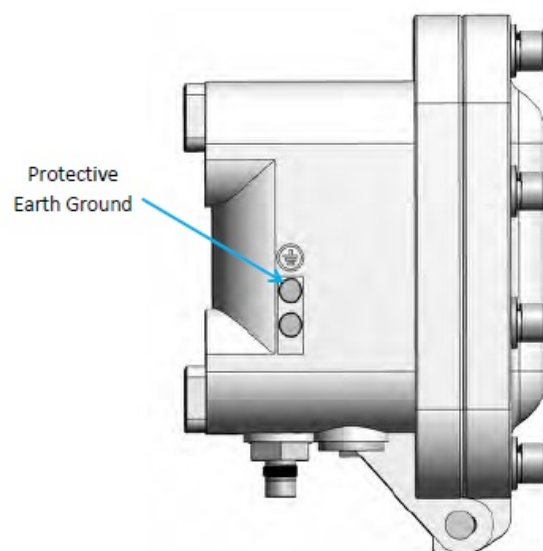

Figure 8: Kona Macro Ex Gateway PE Ground Connection Location
The Kona Macro Ex Gateway requires a permanently connected Protective Earth (PE) Ground conductor. The Protective Earth Ground connection is made through a double hole lug to the termination point located on the side of the enclosure as illustrated in Figure 8. The cable lug must have 6.35 mm  $\varnothing$  holes on 16 mm centers (0.25"  $\varnothing$  on 0.63" centers). The required ground cable gauge is #10 AWG (4 mm2) minimum. This ground connection to earth is always required.